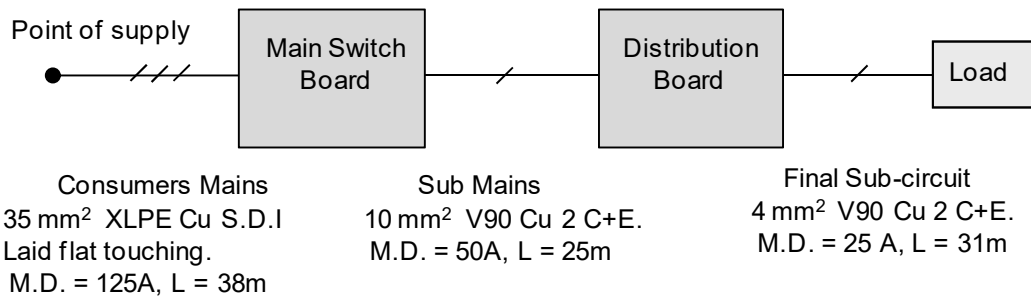

figure 3.
12. For the installation in figure 3 determine the;